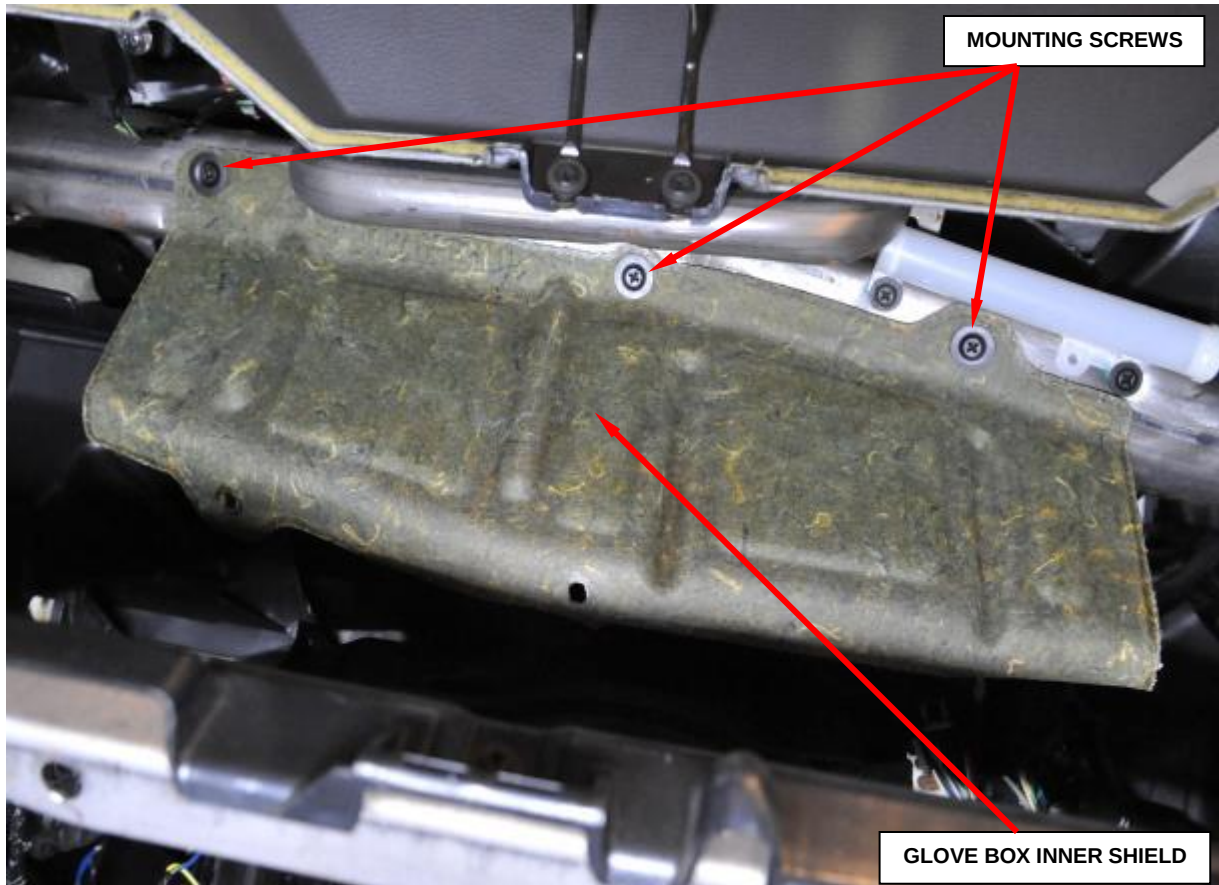

Figure 62 – Inner Glove Box Shield
4. Remove and save the three mounting screws to the inner glove box shield, if equipped (Figure 62).